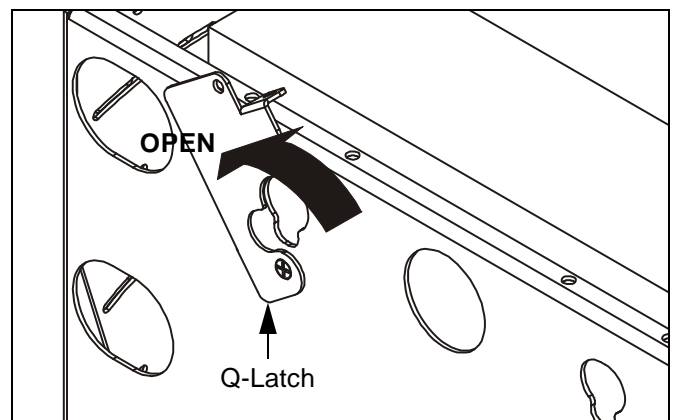

Figure 7: Open Q-Latch
2. Rotate Q-Latch to the OPEN position (See Figure 7).